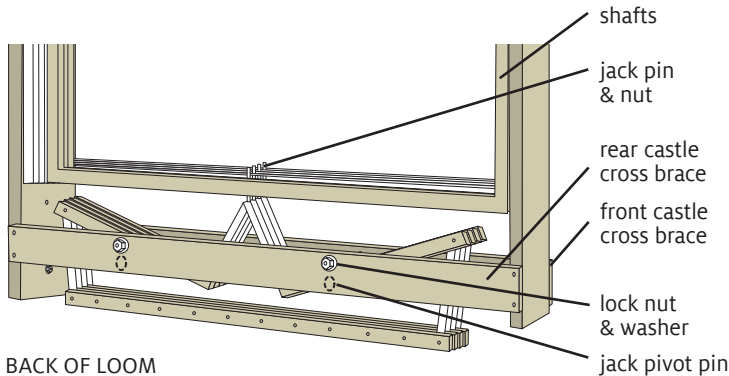

FIGURE 1: REAR CASTLE CROSS BRACE
1. Remove the four screws that secure the rear castle cross brace at each end (Figure 1). Then remove the two lock nuts and washers that secure the carriage bolts to the rear castle cross brace.
2. Remove the rear castle cross brace, being careful not to pull the jack pivot pins out of their holes in the front castle cross brace (Figure 1). The jack pivot pins go through the center of each jack assembly, connecting to the front and rear castle cross braces just below the long carriage bolts.
2. If you need to move heddles from your existing shafts to the new ones, first remove the shafts. Unscrew the nut from the jack pin in the bottom of each of the first four shafts and lift the shafts off the jack pin and out of the shaft channel (Figure 1).